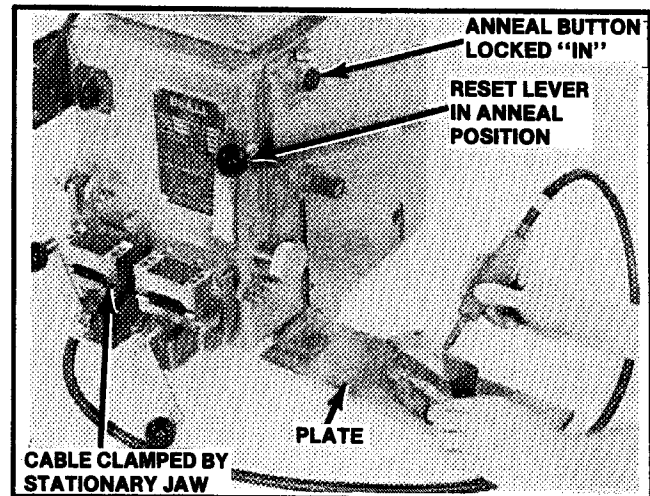

FIG. 25. USING ETCHING PENCIL WITH PORTABLE WELDER.
- (5) To etch with portable-bench, or pedestal-mounted welder: Workpiece must have good contact with welder frame. Hold work against frame or a metal plate bolted under welder on work bench. See Fig. 25. When much etching is to be done, it may be advisable to use a cable attached to the welder frame at one end, with a clamp to contact workpiece at the other end.